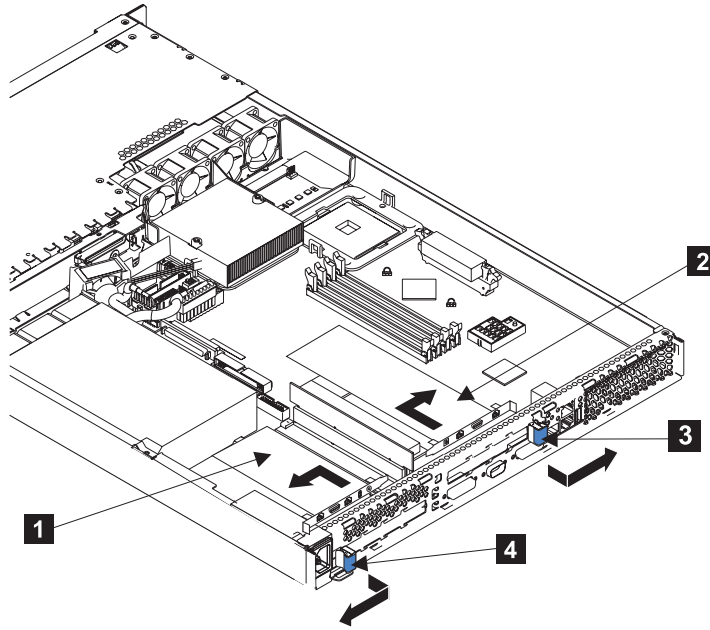

Figure 198. SAN Volume Controller 2145-4F2 before removing an adapter
4. For the adapter that you are going to remove, press the sides of the expansion-slot clip (**3** or **4** in Figure 198 on page 529) together to unlock the clip, and then pivot the expansion-slot clip away from the adapter. The expansion-slot clip remains loosely attached to the SAN Volume Controller 2145-4F2.